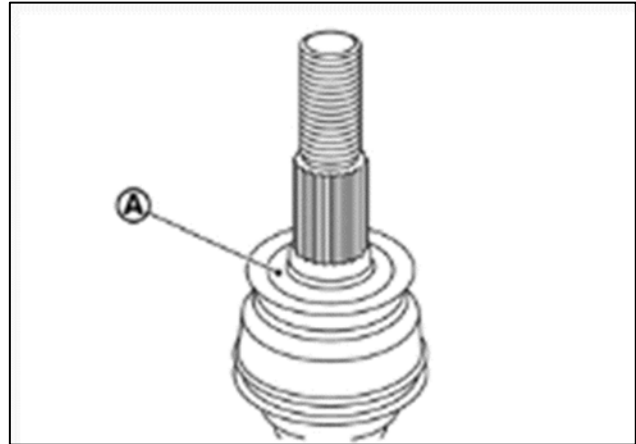

Figure 153
180. Clean the contact surface (A), shown in Figure 153, between the Steering Knuckles and the Front Drive Shafts, and then apply the following amount of Molykote M-77.